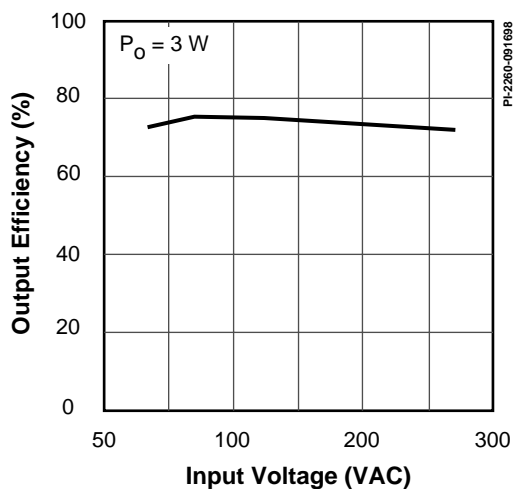

Figure 6. Efficiency vs. Input Voltage, 3 W Output.
**Efficiency (Line Dependent)** – Efficiency is the ratio of the output power to the input power. The curves in Figures 6 and 7 show the efficiency as a function of input voltage. Note that the efficiency is relatively constant over the entire input voltage range.